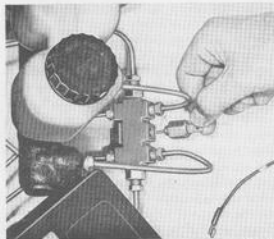

Fig. 5-54. Removing warning switch
1. Disconnect the electrical cable and screw out the warning switch (Fig. 5-54) so that the pistons return to normal position.
2. Clean round the cap on the brake fluid container, also round the contact on the warning valve. Remove the warning switch, see Fig. 5-54. Fill if necessary with brake fluid to the "Max" mark on the container.
2. Clean round the cap on the brake fluid container as well as round the switch on the warning valve. Remove the warning switch, see Fig. 5-54. If necessary, fill the container with brake fluid up to the "Max." mark. Blow the vent-hole of the cap clean.